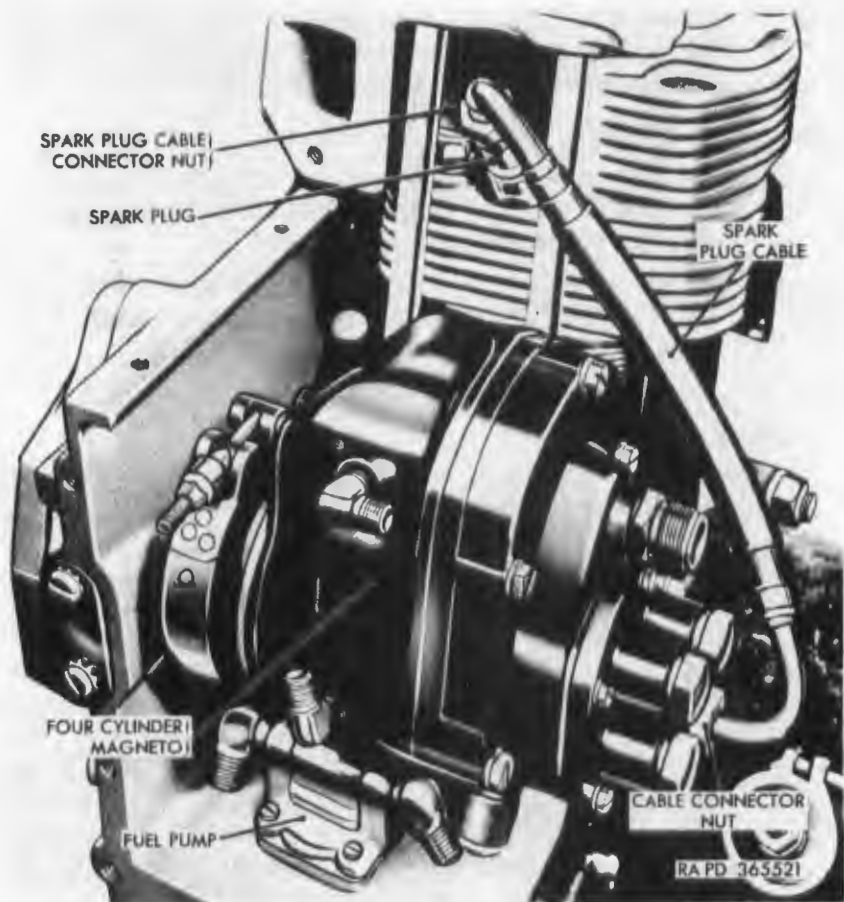

Figure 166. Four cylinder magneto, spark plug, and spark plug cable.
d. Spark Plug Cleaning and Adjustment. The spark plug (fig. 166) should be cleaned and adjusted at regular intervals or whenever the auxiliary generator and engine is removed from the vehicle. Using a round wire gage, adjust gap 0.017 to 0.020-inch between electrodes. Install a new gasket when plug has been removed for cleaning or adjustment. Replace spark plug if badly burned, or otherwise damaged. Refer to paragraph 194a for removal and installation instructions.
(1) *Removal.* Open engine compartment grille doors (fig. 236) over auxiliary generator and engine. Remove choke control lever assembly (fig. 159) by removing two panhead screws with integral lockwashers and disconnecting choke control cable wire from trunnion. Remove four panhead screws with integral lockwashers and lift off carburetor guard (fig. 158). Remove spark plug cover by turning the quick-release thumbscrew one-quarter turn clockwise or counterclockwise. Loosen spark plug cable connector nut (fig. 166) and remove spark plug cable from spark plug. Place deep-socket wrench on spark plug (fig. 166) and turn counterclockwise until plug can be lifted from the engine cylinder head. Discard spark plug gasket. For servicing of spark plug, refer to paragraph 187d.
(2) *Installation.* Insert spark plug (fig. 166) and new gasket into engine cylinder head and turn by hand until snug. Using a deep-socket wrench, turn spark plug clockwise until tight. Position spark plug cable on spark plug and tighten cable connector nut (fig. 166). Position spark plug cover and turn quick-release thumbscrew one-quarter turn clockwise or counterclockwise to secure. Install carburetor guard (fig. 158) and secure with four $\frac{1}{4}$ x $\frac{1}{2}$ panhead screws with integral lockwashers. Position choke control lever assembly (fig. 159) on carburetor guard and secure with two $\frac{1}{4}$ x $\frac{1}{2}$ panhead screws with integral lockwashers. Insert choke control cable wire into trunnion on choke control lever assembly and secure by tightening No. 8 x $\frac{5}{16}$ locking screw. Close engine compartment grille doors (fig. 236).
188a). Remove choke control lever assembly (fig. 159) by removing two panhead screws with integral lockwashers and disconnecting choke control cable wire from trunnion. Remove four panhead screws with integral lockwashers and remove carburetor guard (fig. 158). Remove 18 panhead screws with integral lockwashers and remove upper left panel (fig. 159). Remove spark plug cover by turning the quick-release thumbscrew one-quarter turn clockwise or counterclockwise. Remove spark plug cable from spark (fig. 166) by removing cable connector nut. Remove cable connector nut securing spark plug cable (fig. 166) to magneto receptacle and remove cable from engine.
- (2) *Installation.* Position spark plug cable (fig. 166) on spark plug and tighten cable connector nut. Insert other end of cable into magneto cable receptacle and tighten cable con-